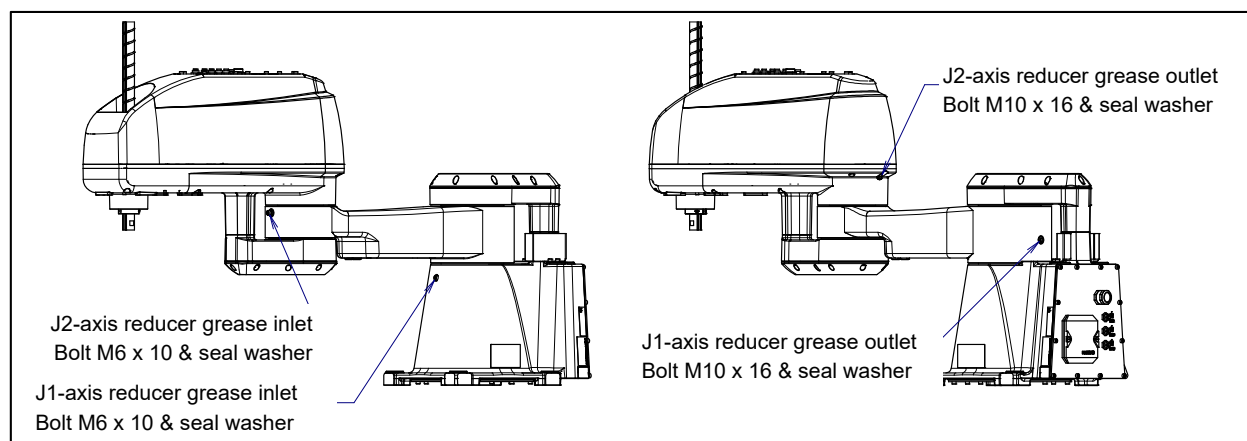

Fig. 7.3.2 (a) Applying grease of the J1, J2-axis reducer
- 2 Remove the seal bolts from the grease inlet and the outlet. (Fig.7.3.2 (a))